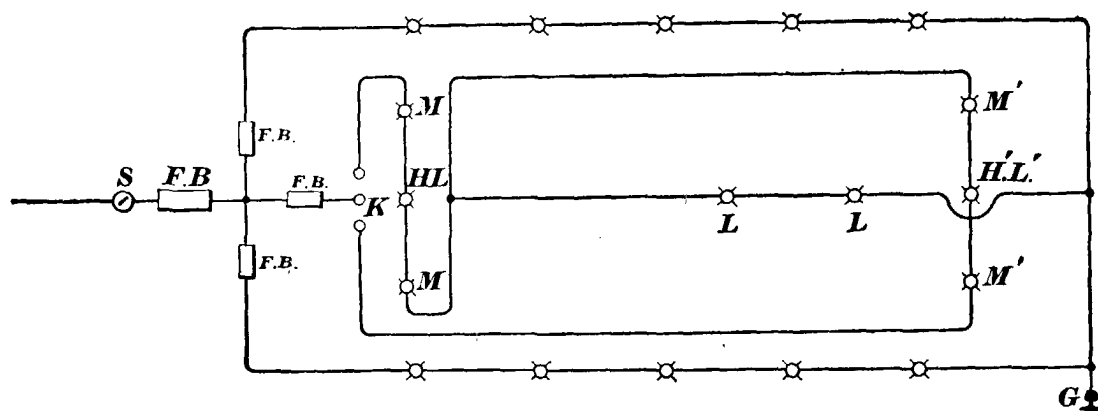

FIG. 53.
47. Fig. 53 shows one style of lamp wiring to be used on elevated or on converted steam roads, where not only are headlights needed, but markers as well. The markers are supposed to show a red, green, or white light, or some combination of the two, to indicate the destination of the train.
In Fig. 53, M , M and $H L$ are the markers and headlight on one end of the motor car; M' , M' and $H' L'$ are the same on the other end of the car. L , L , the two lamps inside of the car, are in the form of a two-light cluster, and burn whenever the signal lamps on either end of the car burn.